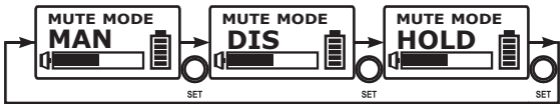

Fig. 16
12. MUTE MODE, Fig. 16.
- (A) Press MODE button to access MUTE MODE and the parameters start blinking and is ready to be changed.
- (B) Press SET button to set MAN, DIS or HOLD.
- (C) Press MODE button to save or the parameter saves automatically when blinking stops.